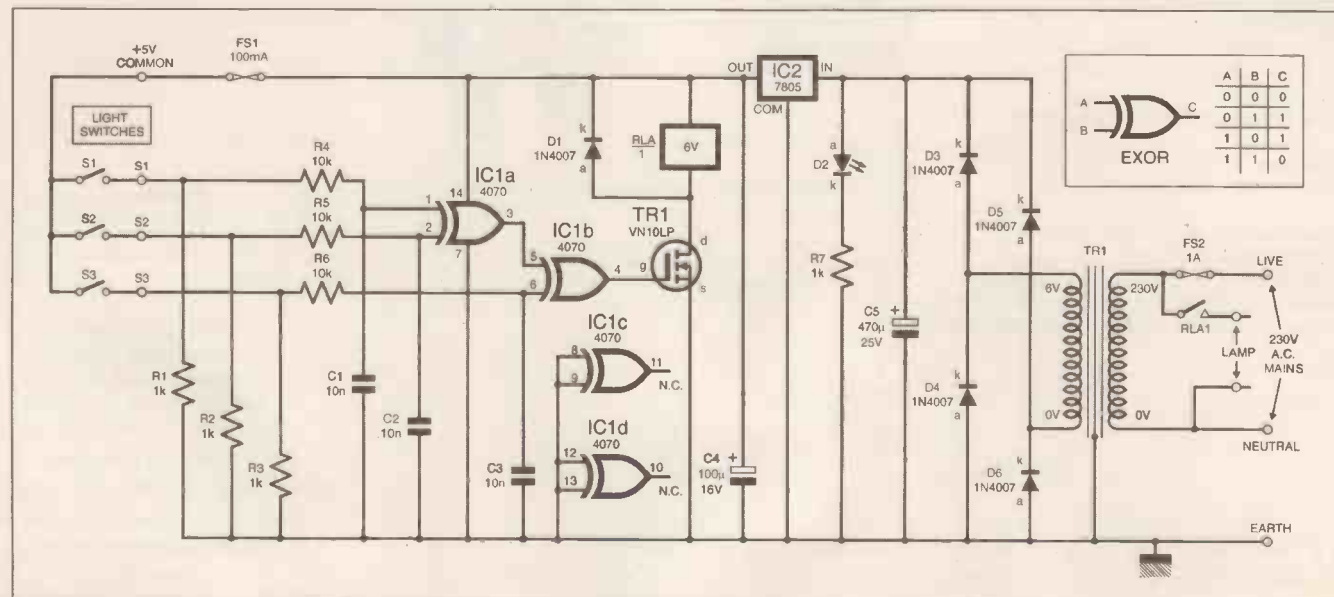

Fig.1. Complete circuit diagram for the Three-way Lighting system.
**T**RADITIONAL three-way lighting circuits (in which a lamp can be operated using any one of three switches) are complicated and they are physically difficult to wire together. The electronic alternative detailed in the circuit diagram of Fig.1 gives much simpler wiring, and as it operates at a switched low voltage it gives an easier and more economical installation.